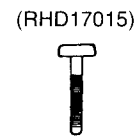

Fig. 3
- Be sure to repalce the head azimuth adjustment screws (refer to Fig. 3) and remove the screw-locking bond left on the head base when readjusting the head azimuth.
- Note:** ●Be sure to replace the head azimuth adjustment screws (refer to Fig. 3) and remove the screw-locking bond left on the head base when readjusting the head azimuth. Otherwise, a fine adjustment is not possible.
2. Slide the cassette cover panel in the direction of the arrow ① and remove it in the direction of the arrow ②. (Though the figure below shows only DECK2, DECK1 is also removed in the same procedure.)